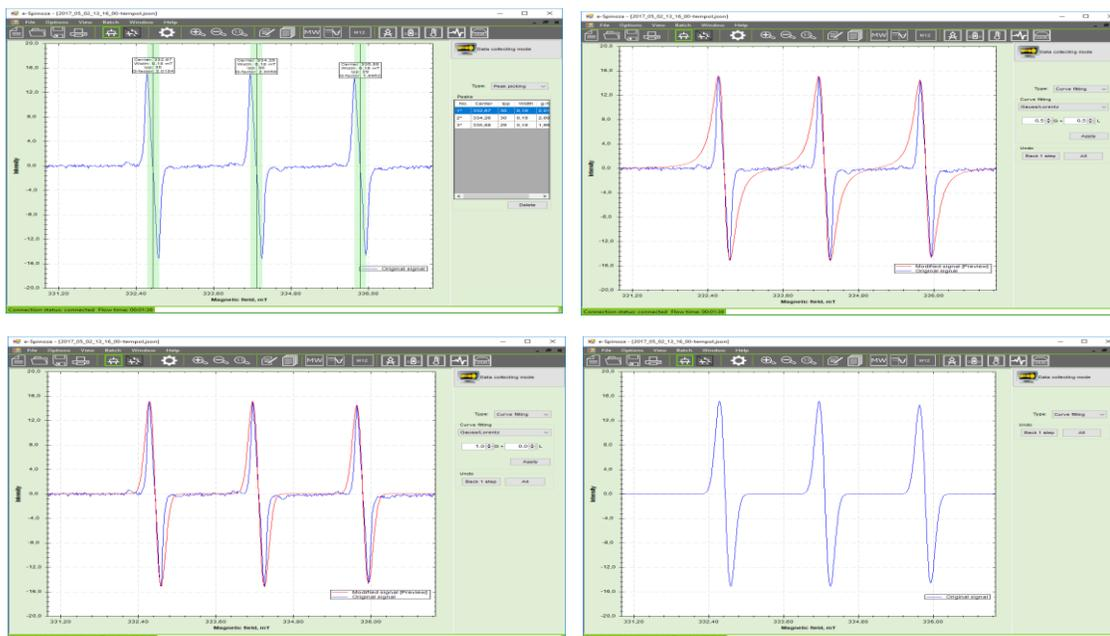

Figure 7.8 – Operation with curve fitting
- upon completion of the selection procedure, click **Apply** (Fig. 7.8).